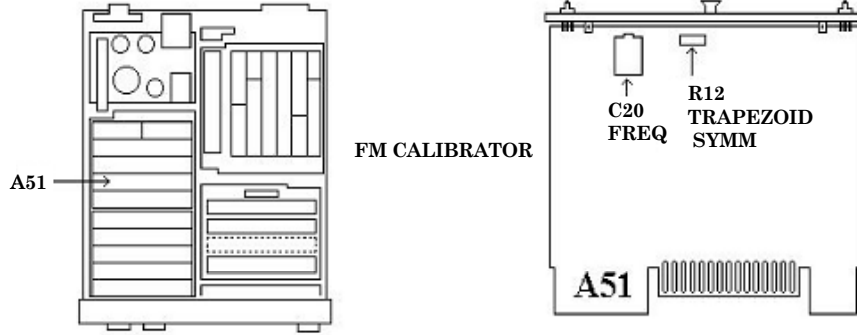
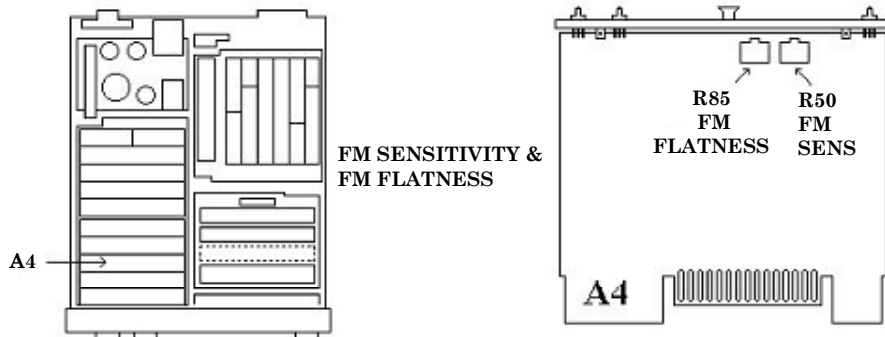
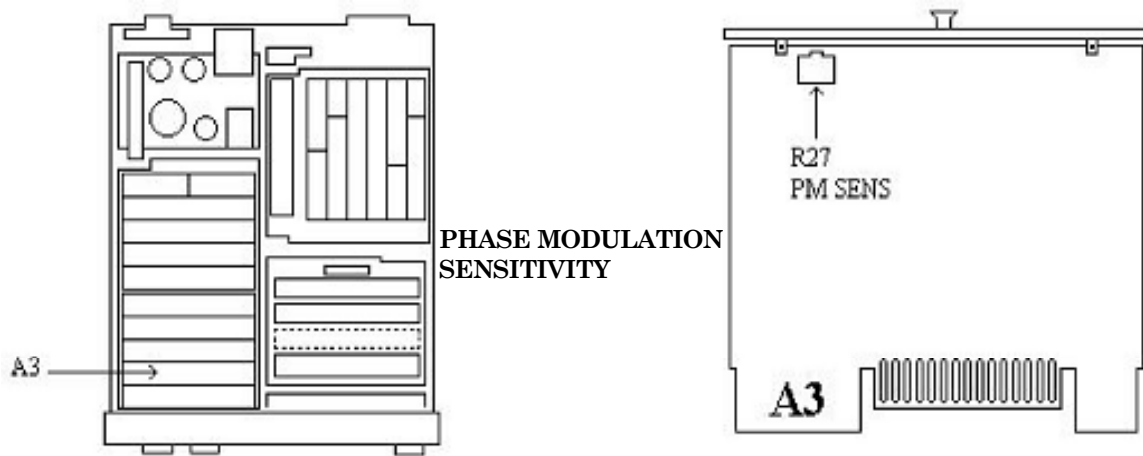

Figure 8. A51 board.
Figure 9. A4 board.
Figure 10. A3 board.
- (11) Disconnect all external equipment from TI and connect TI sensor module to TI **CALIBRATION AM/FM OUTPUT**.
- (12) Press TI keys as listed in (a) through (d) below:
- (13) Adjust A51C20 FREQ (fig. 8) for a TI display between 1009000 and 1011000. (R)
(14) Press TI keys as listed in (a) through (d) below:
(15) Alternately switch TI **DETECTOR** between **PEAK+** and **PEAK-** and note the display for each detector.
(16) Adjust A51R12 **TRAPEZOID SYMM** (fig. 8) until the readings are the same for both detectors within ± 0.010 kHz. (R)
(17) Press TI keys as listed in (a) and (b) below:
(18) Allow TI to take at least two readings.
(19) Adjust A4R50 **FM SENS** (fig. 9) for a displayed indication between 99.95 and 100.05 percent. (R)
- (24) Set AM/FM test source **TEST MODE** switch to **FM**.
- (25) Adjust AM/FM test source **CARRIER FREQUENCY TUNE** for a TI indication of approximately 400 MHz.
- (26) Press TI keys as listed in (a) through (c) below:
- (27) Adjust calibrator level for a TI indication of 280 kHz.
- (28) Press calibrator **NEW REF** key.
- (29) Press TI **RATIO** key.
- (30) Change calibrator output frequency to 150 kHz.
- (31) Adjust A4R85 FM FLATNESS (fig. 9) for a display between 99.9 and 100.1 percent. (R)
- (32) Press TI keys as listed in (a) through (c) below:
- (33) Set calibrator for a wideband output frequency of 1 kHz at an amplitude of 500 mV.
- (34) Move TI sensor module from AM/FM test source **FM OUTPUT** to **FM/4 OUTPUT**.
- (35) Adjust AM/FM test source **CARRIER FREQUENCY TUNE** for a TI indication of approximately 100 MHz.
- (36) Press TI keys as listed in (a) and (b) below:
- (37) Adjust calibrator output for a TI indication 100 kHz.
- (38) Press TI **MEASUREMENT Φ M** key.
- (39) Adjust A3R27 PM SENS (fig 10) for a TI indication of 100 ± 0.2 rad. (R)
- (40) Reduce all outputs to minimum and disconnect equipment setup.